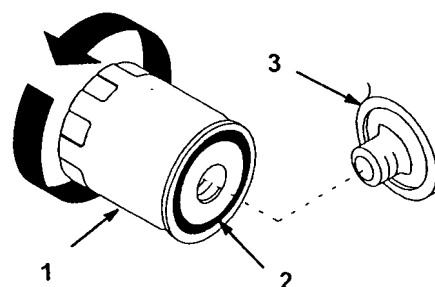

Figure 24
3. Remove the old filter and wipe the filter adapter (Fig. 24) gasket surface.
5. Apply a thin coat of new oil to the rubber gasket on the replacement filter (Fig. 24).
6. Install the replacement oil filter to the filter adapter. Turn the oil filter clockwise until the rubber gasket contacts the filter adapter, then tighten the filter an additional 1/2 turn (Fig. 24).